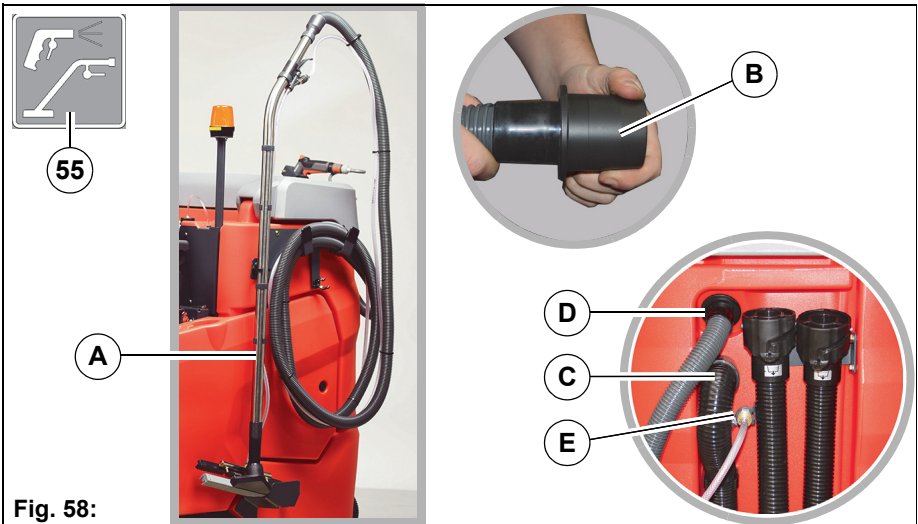

Fig. 58:
The spray suction tool **Fig. 58-A** is used for manually cleaning difficult-to-reach points.
Before starting up for the first time, the provided adapter must be securely attached to the end of the hose **Fig. 58-B**.
1. Reconnect the suction hose in the park position **Fig. 58-C**.
2. Insert the hose of the tool into the opening of the vacuum system **Fig. 58-D**.
3. Connect the hose to the water connection of the machine **Fig. 58-E**.